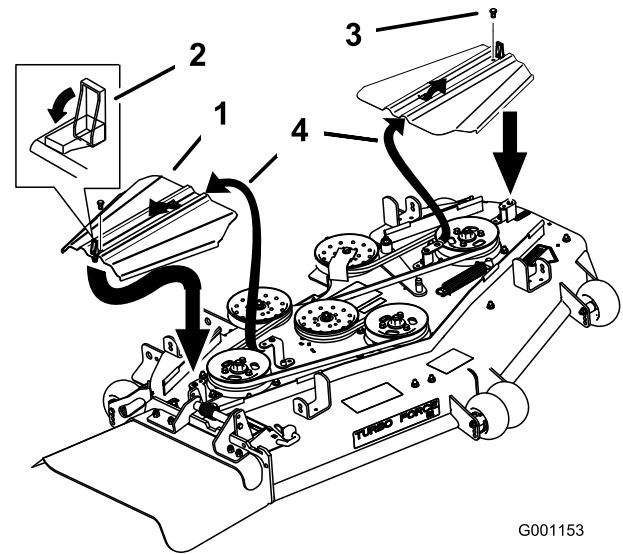

Figure 56
3. Remove the bolts holding the belt covers and remove the belt covers (Figure 56).
9. Install the belt covers by sliding the cover into the tab, install the bolts, and close the latches (Figure 56).